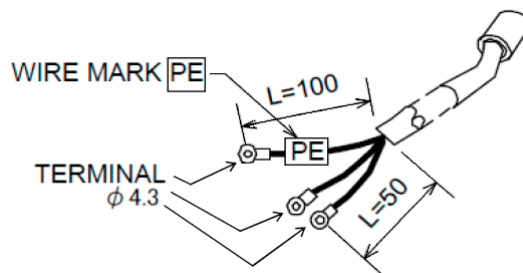

Fig. 5-12 Power Cable
- (1) Connect the power cable terminal to the terminal board of user's power distribution board for equipment. The wire with [PE] mark is for earth use and other remaining two wires are for single phase AC power. (Refer to Fig. 5-12, Table 5-6)